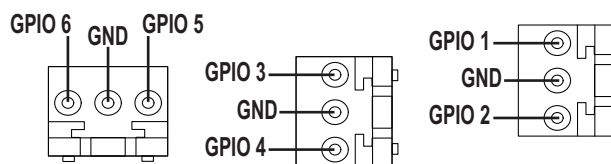

Figure 14 R3B-GATOR Designations — GPIOs
**Figure 14** shows the GPIO designations for the R3B-GATOR rear module (P/N 8322AR-318D).